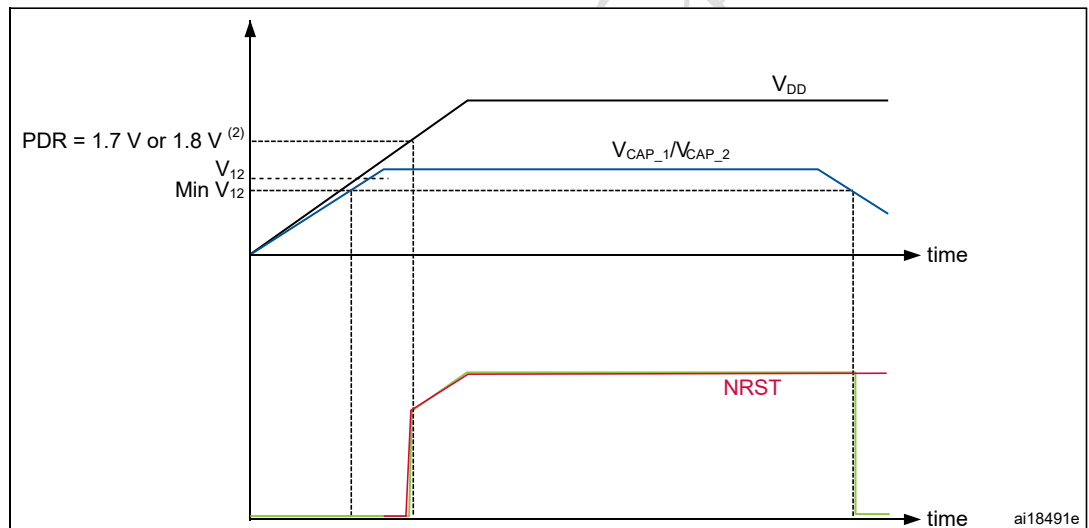

Figure 10. Startup in regulator OFF mode: slow VDD slope- power-down reset risen after VCAP_1/VCAP_2 stabilization
- If the time for VCAP_1 and VCAP_2 to reach V12 minimum value is faster than the time for VDD to reach 1.8 V, then PA0 should be kept low to cover both conditions: until VCAP_1 and VCAP_2 reach V12 minimum value and until VDD reaches 1.8 V (see Figure 10).